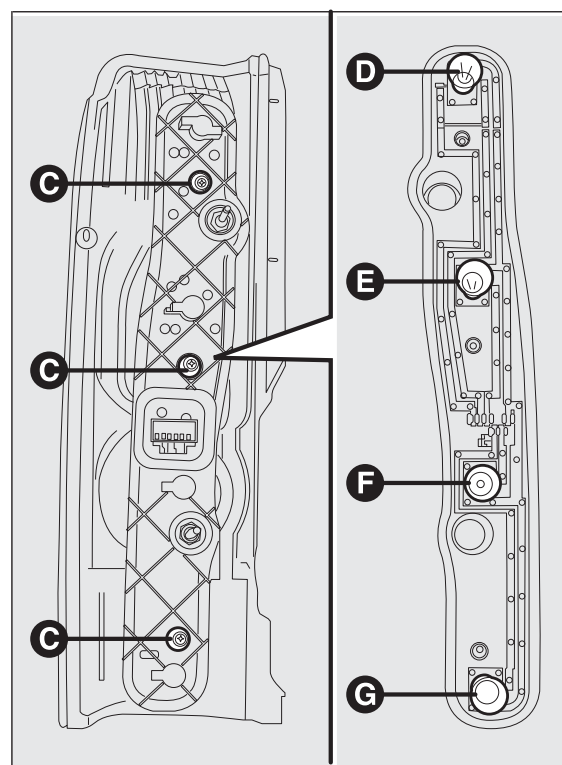

fig. 199
- ☐ unscrew the screws C fig. 199 using the screwdriver provided and remove the bulb holder;